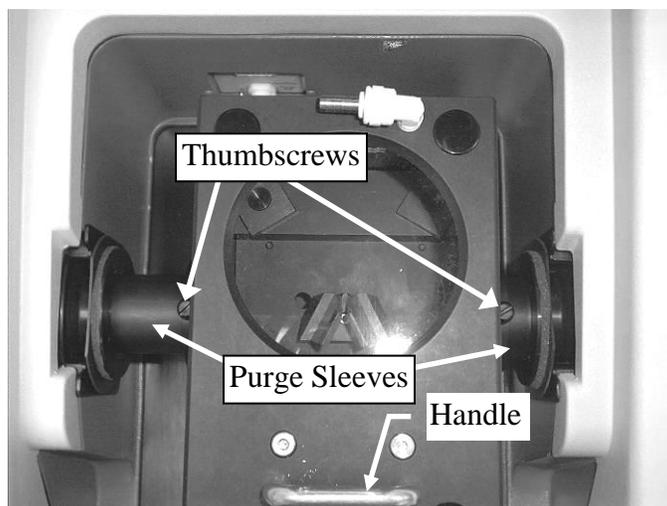

Figure 4: View of the Praying Mantis from above.
- 2.c. Loosen the thumbscrews holding the purge sleeves of the Praying Mantis in place, as seen in Figure 4 below.